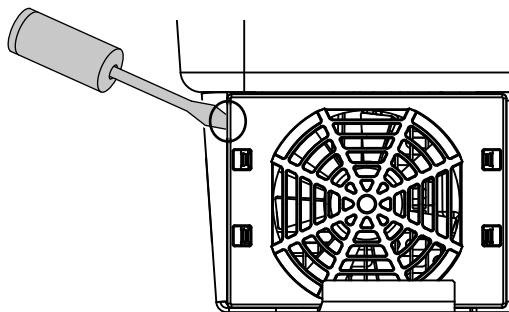

Fig. 62: Loosen fan grill
2. Dismantle the fan. To do this, place a screwdriver at the edge of the fan grill and apply a little pressure to the fan grill. ↗ **Fig. 62**